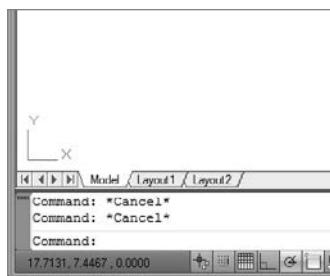

FIGURE 2.13 The x- and y-coordinates of the cursor are shown at the bottom of the AutoCAD window.
2. Move the cursor around, and notice the left end of the status bar at the bottom of the screen. This is the coordinate readout, and it displays the coordinates of the cursor's position, as shown in Figure 2.13.